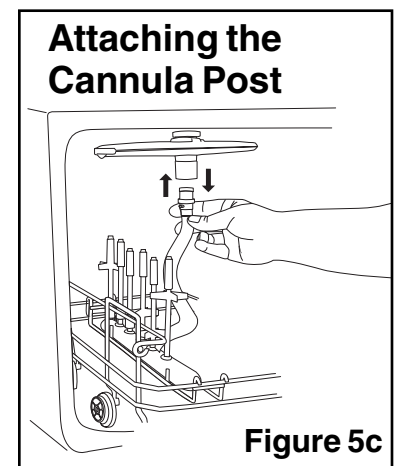

Figure 5c
4. Push the cannula hose into the upper wash arm collar (fig. 5c). There will be slight resistance. When it is secured in place, you will detect a slight click.